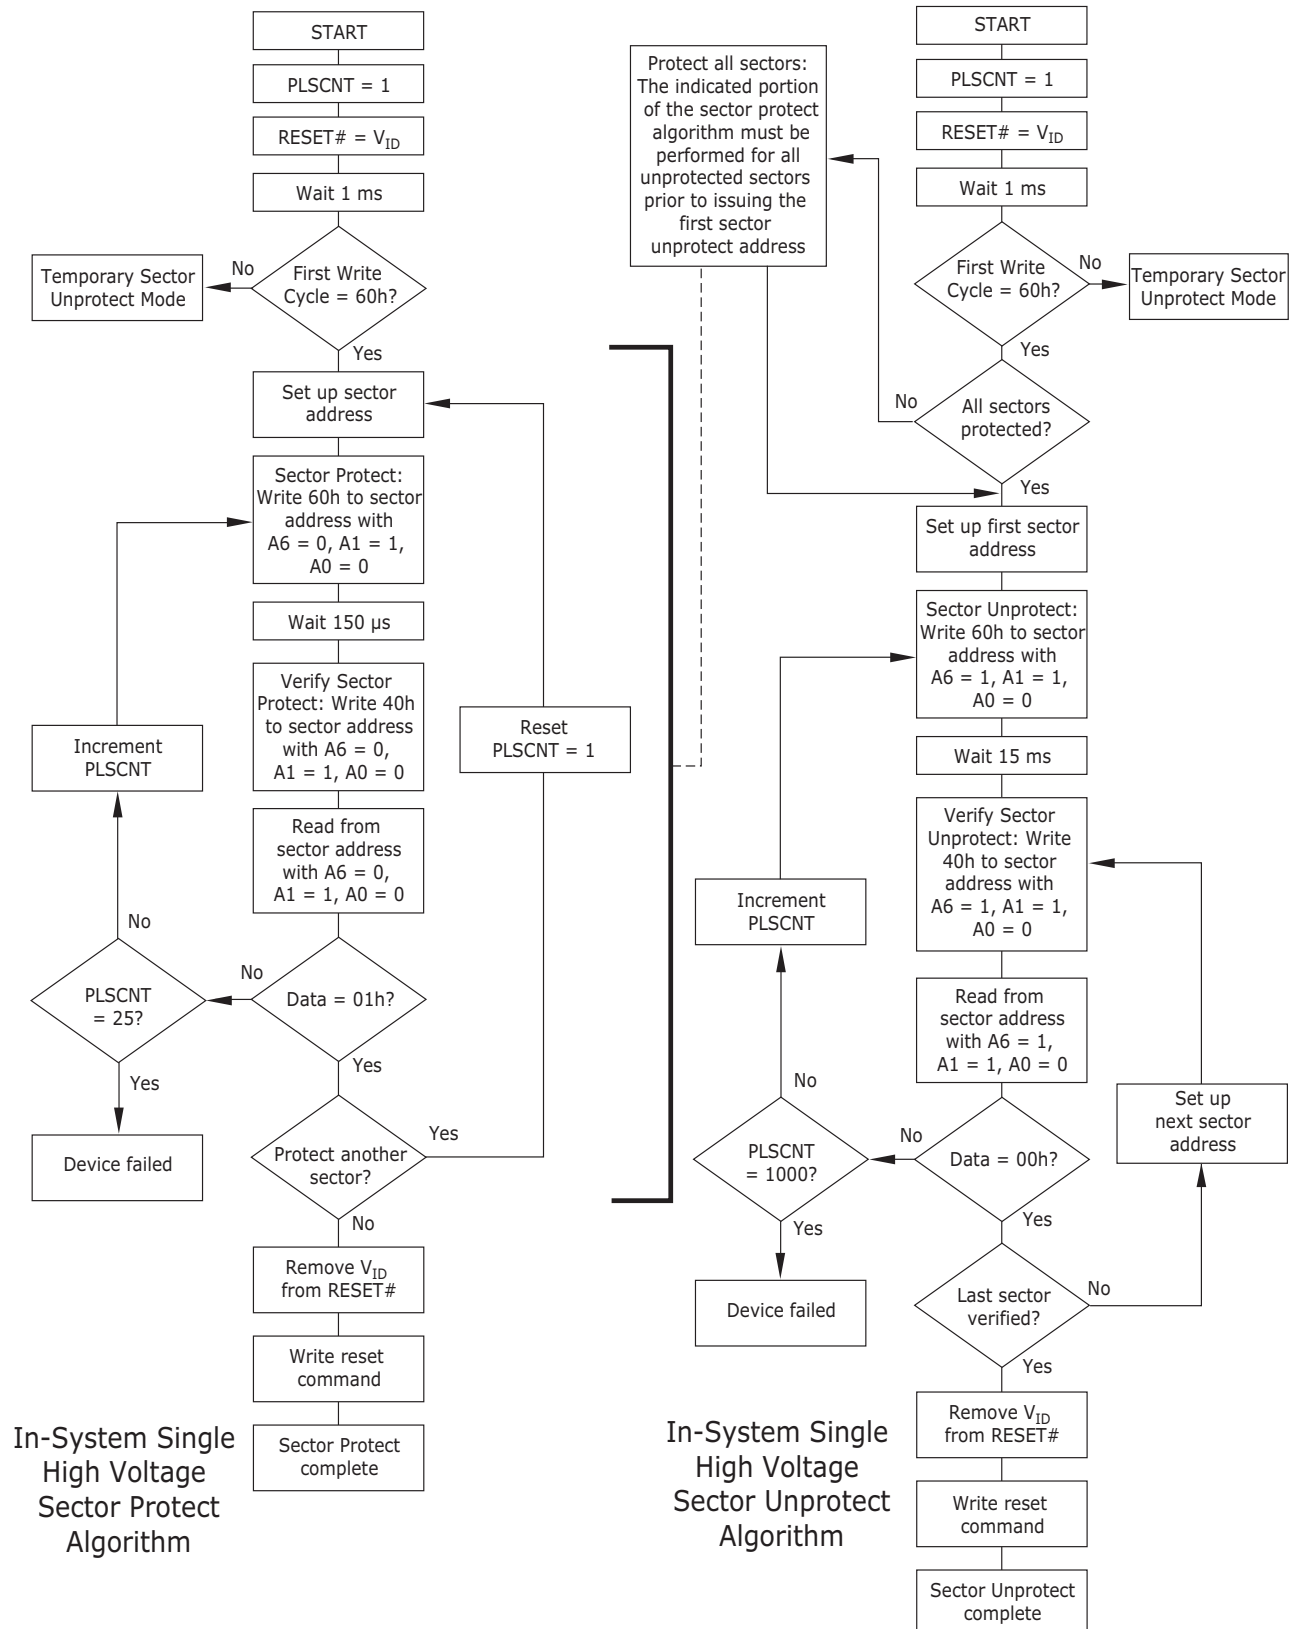

Figure 2. In-System Single High Voltage Sector Protect/Unprotect Algorithms
Sector protection and unprotection requires V_{ID} on the RESET# pin only, and can be implemented either in-system or via programming equipment. Figure 2 shows
- Write the three-cycle Enter SecSi Sector Region command sequence, and then follow the in-system sector protect algorithm as shown in Figure 2, ex-